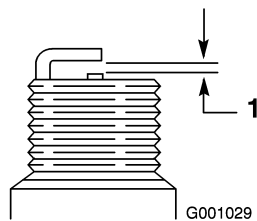

Figure 53
4. Set the gap between the electrodes on the spark plug at 0.030 inch (0.76 mm) (Figure 53).